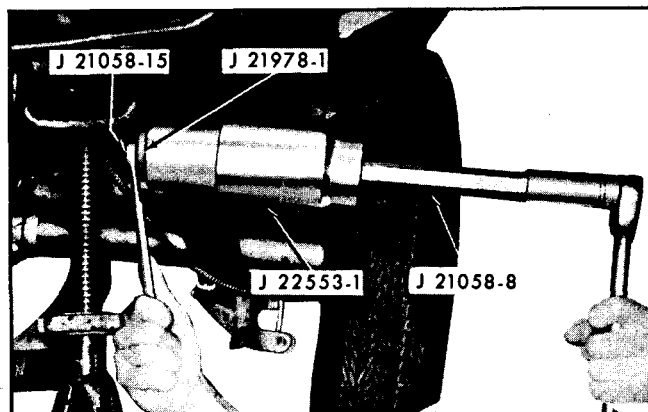

Fig. 4-2 Removing Spring Front Bushing - Firebird
- b. Position remover adapter J 21978-1 over puller screw J 21058-15 so that adapter is against head of puller screw (Fig. 4-2).